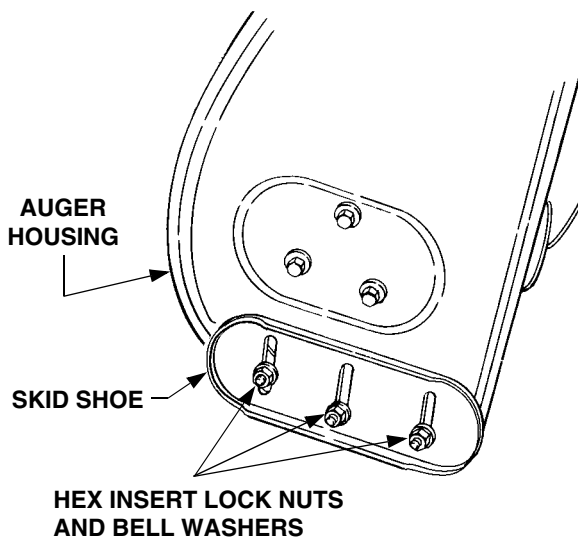

Figure 11
- Move the skid shoes up or down to the desired position and securely tighten the lock nuts. Adjust both skid shoes to the same height. Refer to Figure 11. Remove the blocks.